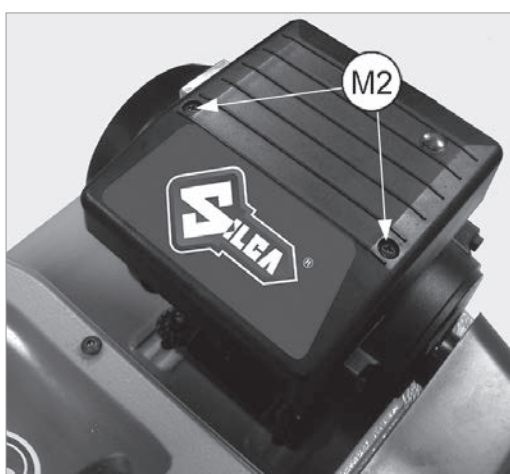

Fig. 46
- 1) Loosen the 2 screws (M2) and remove the motor cover (Fig. 46).
- 3) Remove the switch (K) making pressure on the tabs with a screwdriver.
- 2) Detach the connectors (Z) paying special attention to their position.
- 3) Remove the condenser (Y).